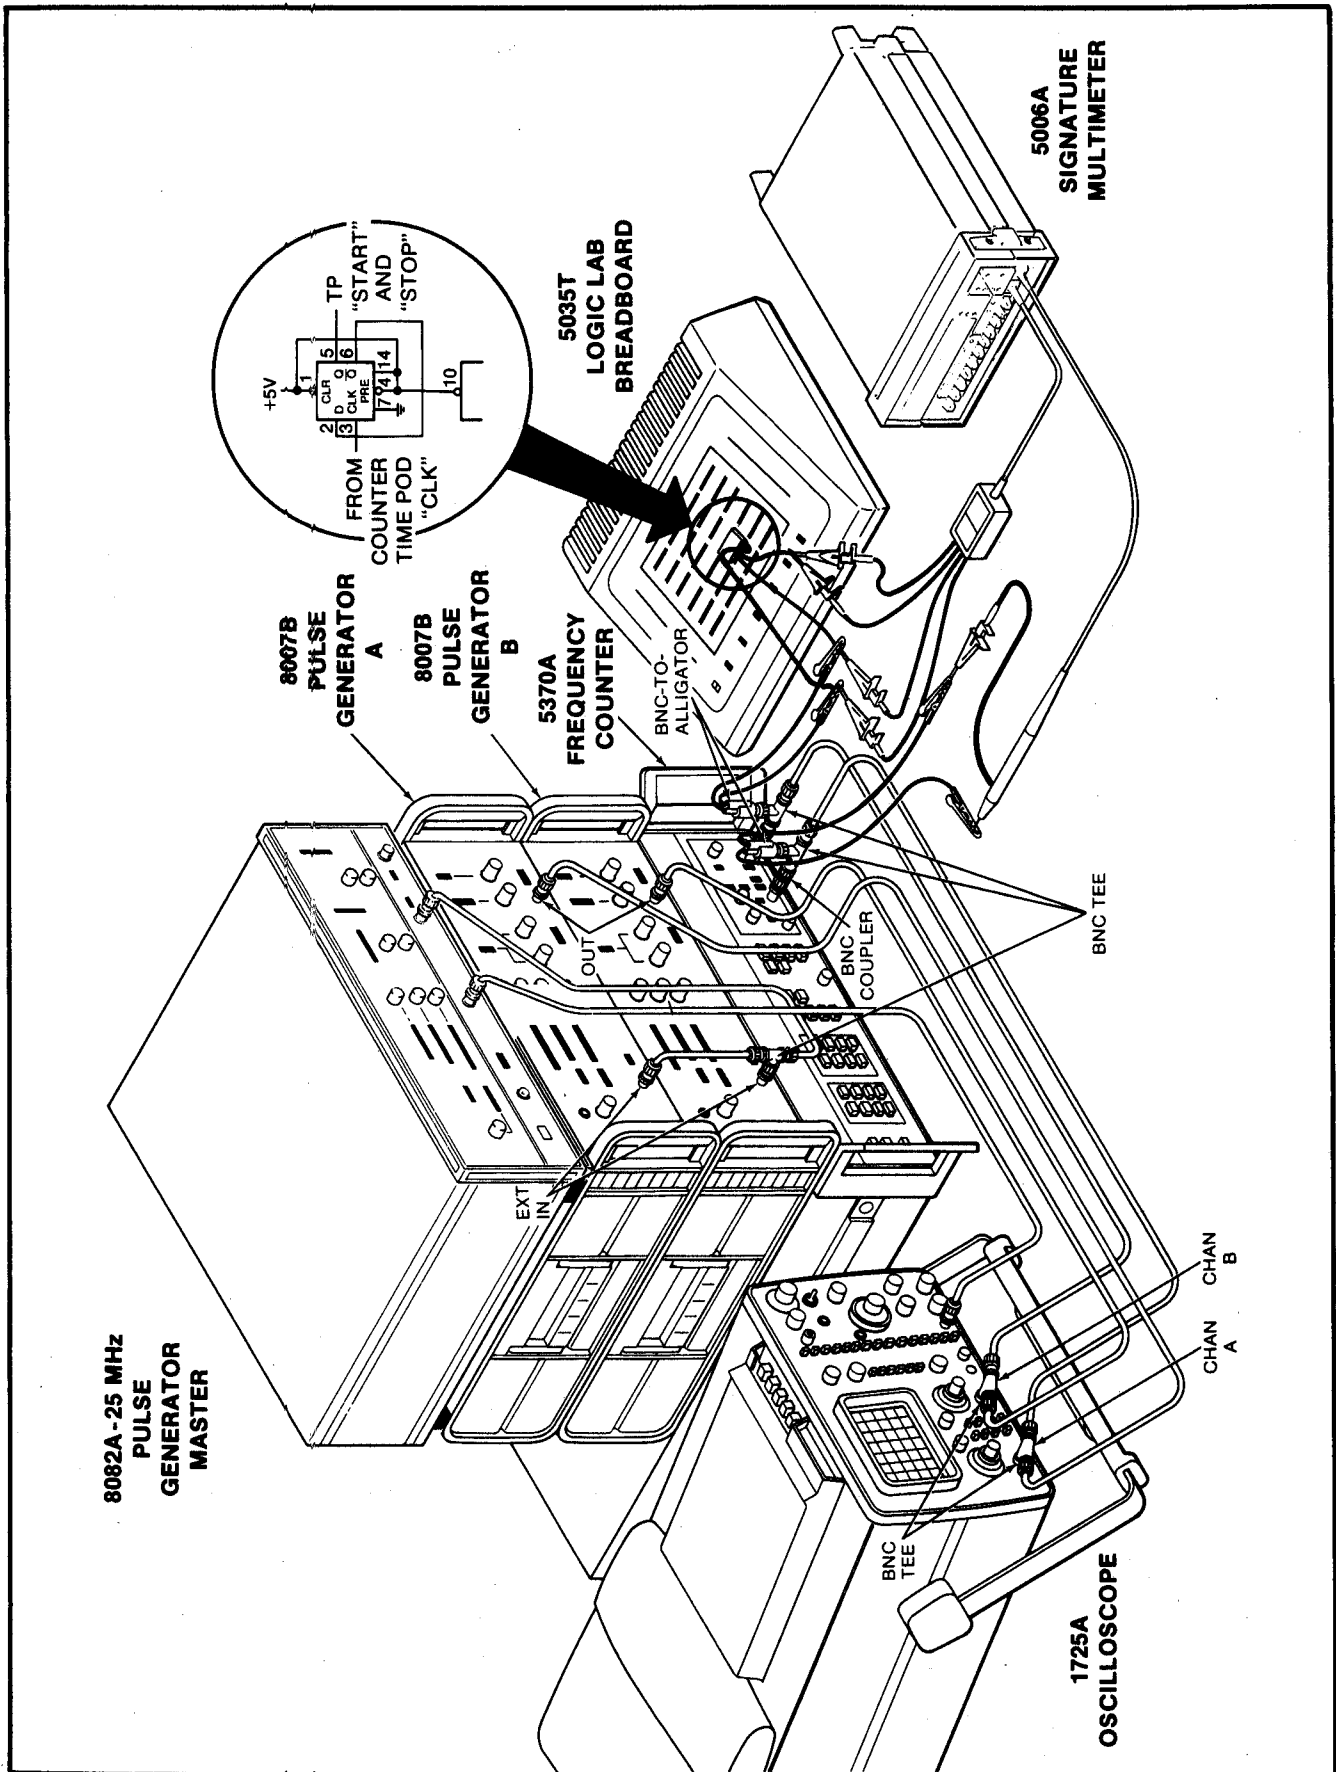
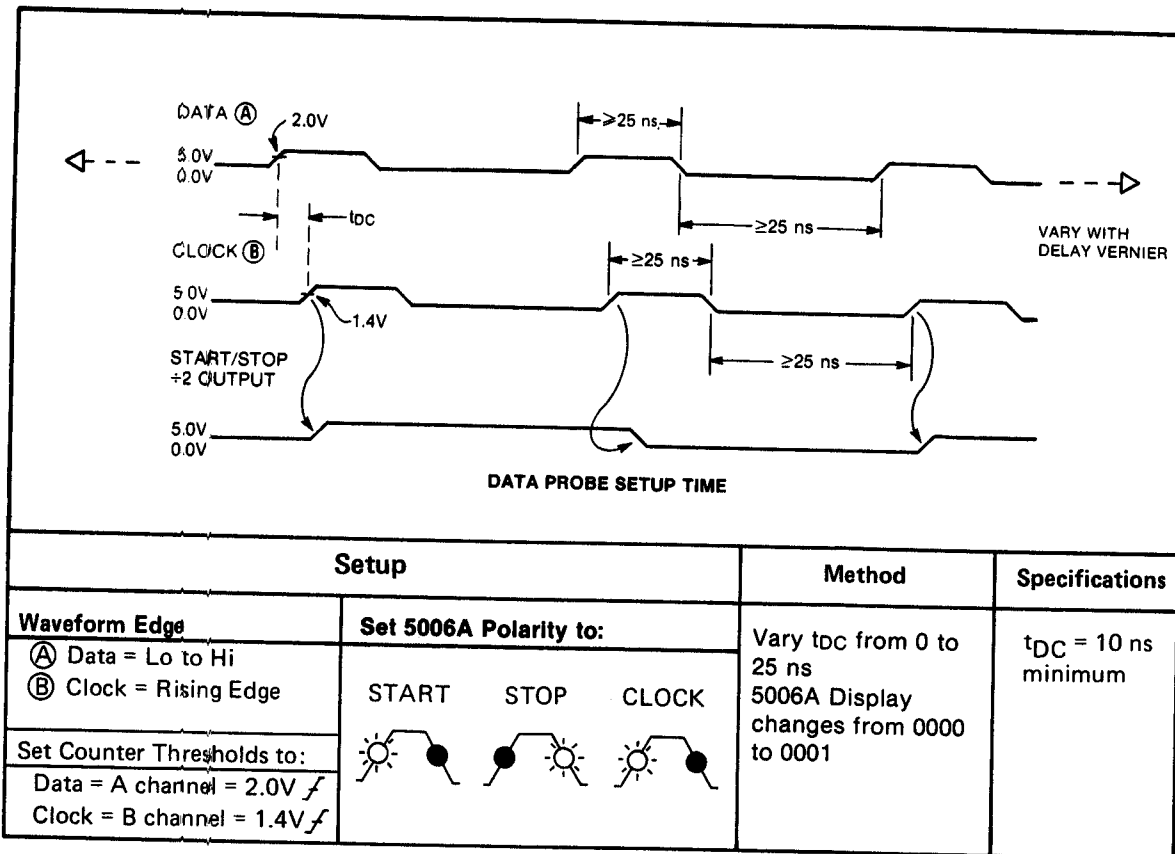
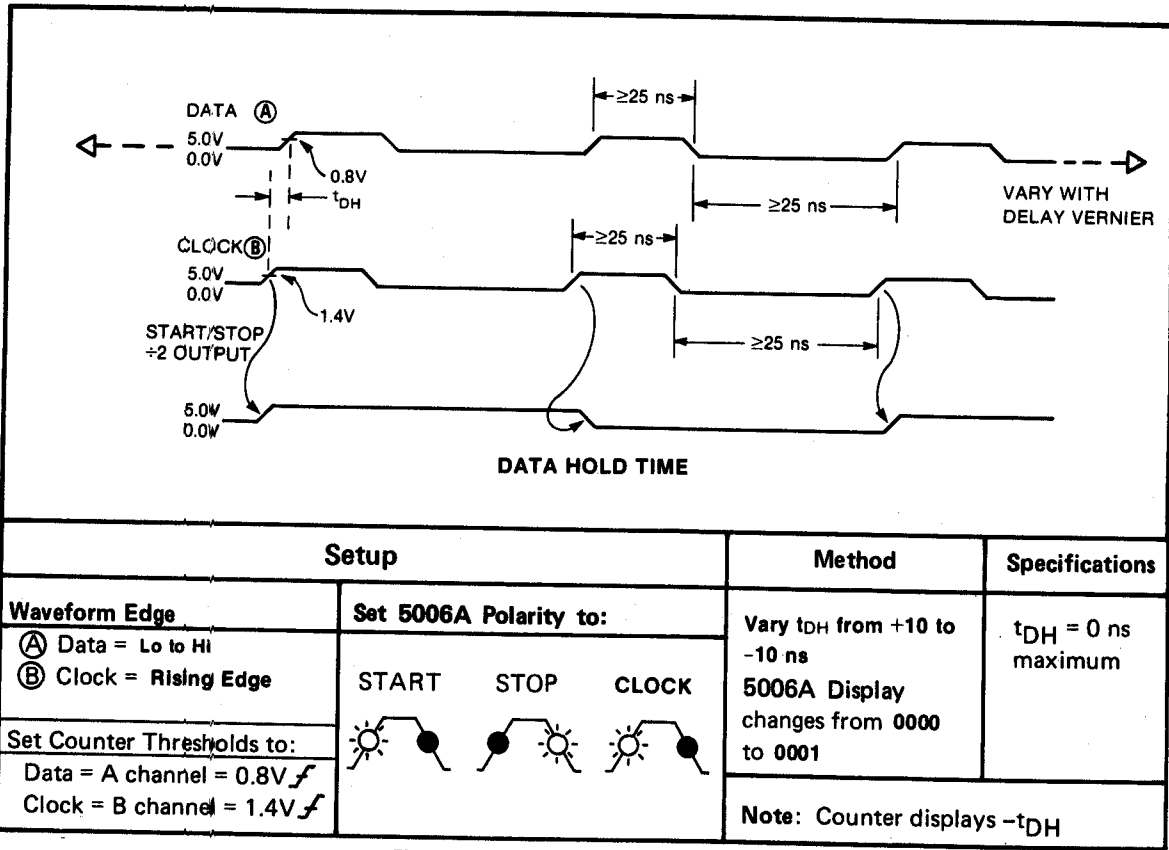

Figure 4-3. Data Probe Test Setup
Figure 4-4. Data Probe Setup Time - Test 1
Figure 4-8. Data Hold Time - Test 1
a. Configure the equipment as shown in Figure 4-3.
g. Using the delay and pulse width verniers of the two pulse generators (A and B), adjust the controls to produce the waveforms shown in Figure 4-4.
j. The four data hold (tDH) tests are analogous, except the 5370A displays -tDH. That is, when the counter displays -5 ns, record the absolute value "tDH = 5 ns". Perform all four tDH tests, as shown in Figures 4-8 through 4-11. Verify that the tDH specification of "0 ns max" is met. Record the results on the Performance Test Record.
The following eight tests (Data Probe Setup Time, Figures 4-4 through 4-7 and Data Probe Hold Time, Figures 4-8 through 4-11) all utilize the equipment setup shown in Figure 4-3. Each test, however, requires minor changes in control settings or procedure (e.g. change counter slope control from  to ). As an aid to the technician, information shown in boldface type in Figures 4-4 through 4-11, highlight (only) the information which has changed from the previous test figure.